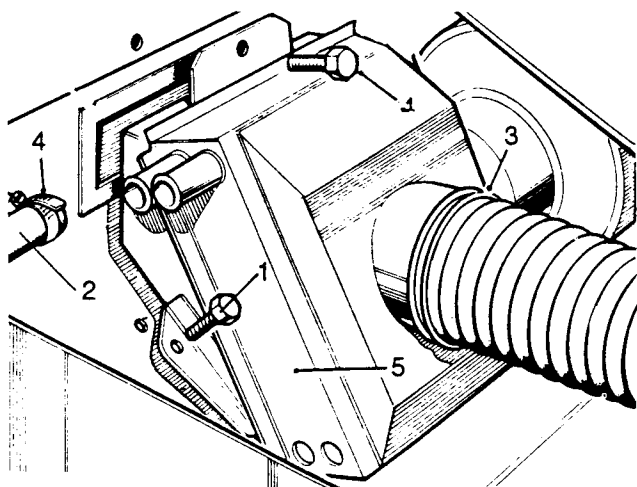

Fig N3.15
- (2) Refer to Fig N3.15. Open the bonnet and remove the heater box lower fixings (1).
- (3) Disconnect the heater water hoses (2).
- (4) Disconnect the air inlet hose (3).
- (5) Remove the heater box upper fixing (4).
- (6) Withdraw the heater box (5).